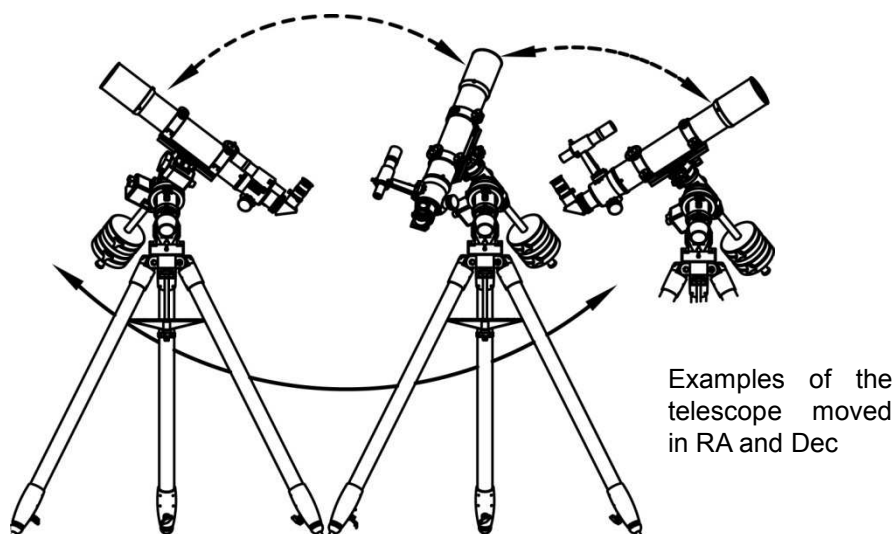

Fig 20
2.3.3 Pointing to directions other than due North (fig. 20)